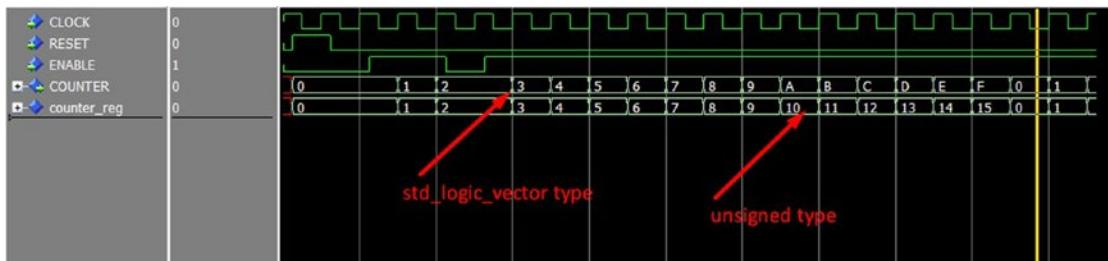

Figure 10-10. 4-bit counter simulation result
7. After step 6 (a-p), the ModelSim Wave window should show Figure 10-10 as the result. If both the COUNTER and counter_reg value did not show as Hexadecimal and unsigned number, then right-click on the waveform signal name. It will pop up a menu on the left-hand side > Radix > click the Radix you would like to show (like COUNTER use hexadecimal and counter_reg uses unsigned).